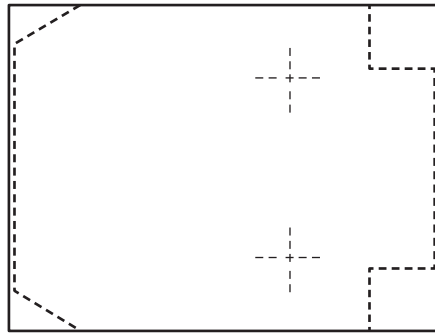

Figure 14
Figure 14 shows a piece of 100 mm wide $\times$ 8 mm thick steel bar cut to a length of 144 mm. The end plate will be marked out and made from this, as indicated by the broken lines.
- b.** List four tools that are required to mark out the end plate as shown in Figure 14. 2 marks